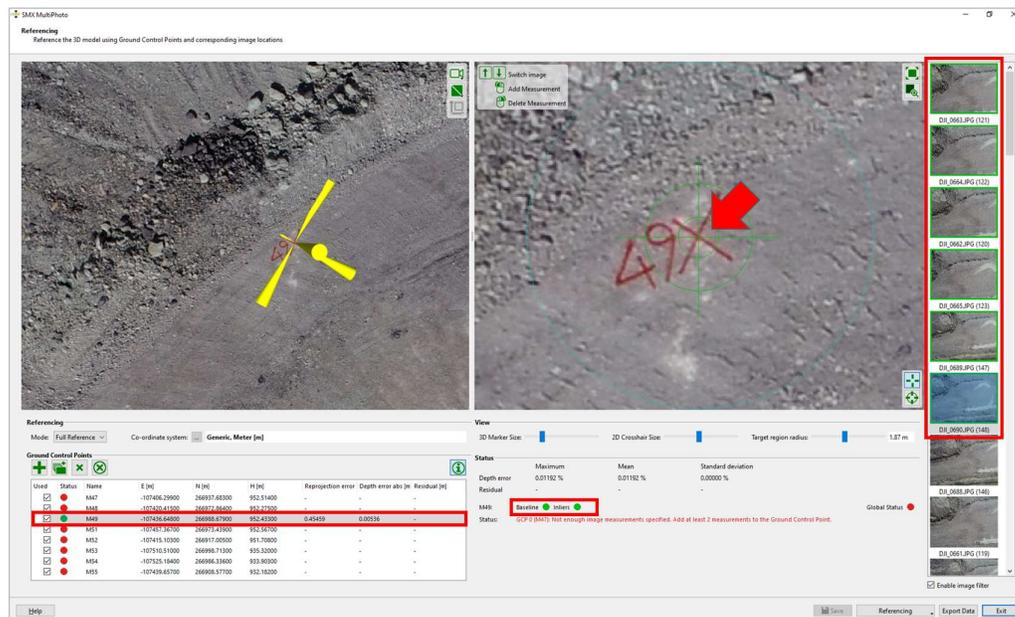

Figure 28: Targeting of GCP
5. Choose at least 2 images (3 or more are recommended) showing the same GCP and click the center of target. The status signals *Baseline* and the *Inliers* turn into green and the error of re-projection and depth is displayed in the GCP list. See Figure 28.
5. Choose at least 2 images (3 or more are recommended) showing the same *GCP* and click the center of target. The status signals *Baseline* and the *Inliers* turn into green and the error of re-projection and depth is displayed in the *GCP* list. See Figure 28.